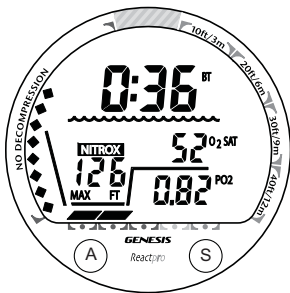

Fig. 35 - No Deco ALT 1
No Deco ALT 1 (Fig. 35)
- > press/release the A (left) button to access the ALT 1 screen (similar to Fig. 35)